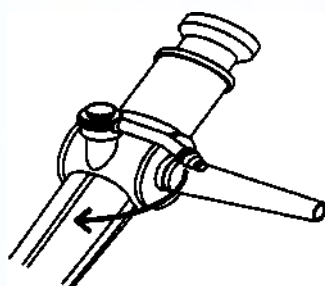

Figure 3. Removal of the exhaust valve from the nasopharyngolaryngoscope
3.4) Removal of the exhaust valve from the nasopharyngolaryngoscope (Figure 3)